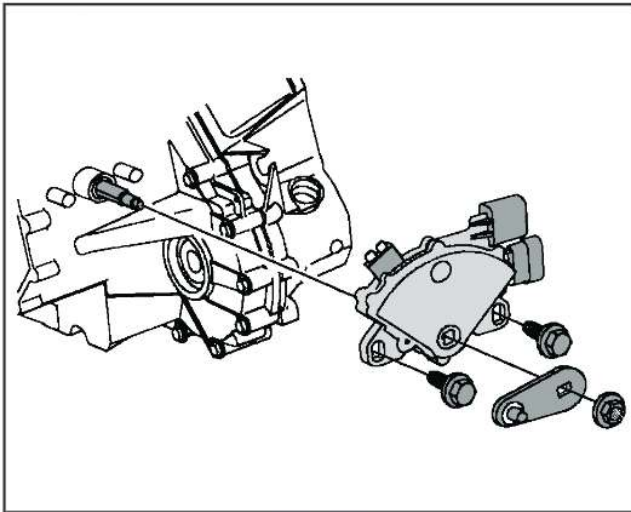

Figure 216
49. Install the Pattern Select Switch and retaining bolts. Do not tighten the retaining bolts at this time (See Figure 216).
50. Install the external manual lever to the manual lever shaft as shown in Figure 216 and tighten the retaining nut to 12 N·m (106 in. lbs).